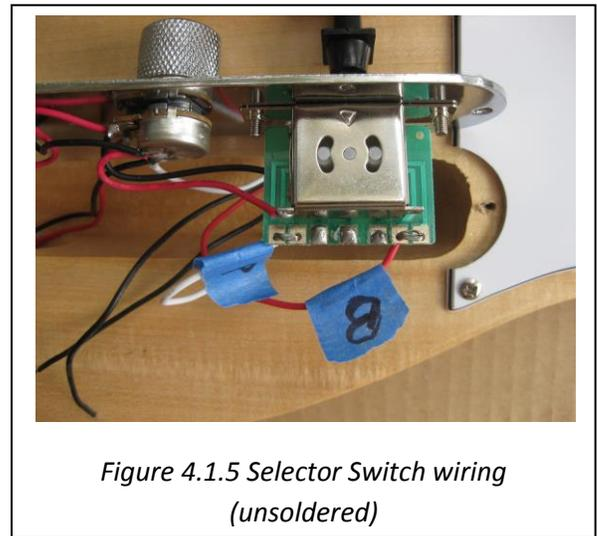

Figure 4.1.5 Selector Switch wiring
3. Solder the Bridge Signal wire (typically red) to the selector switch, pins 1 & 2 (pins 1 & 2 are closest to the neck) as shown in Figure 4.1.5.
4. Solder the Pickguard/pickup Signal wire (typically white) to the selector switch, pins 6 & 7, also shown in Figure 4.1.5